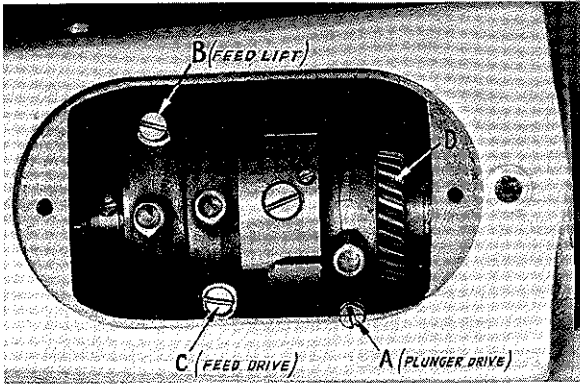

Fig. 1
Access to the connecting rod adjusting screws is through the opening in the top of the arm (Fig. 1). Remove screws and arm cover plate. Tighten screw (A) in plunger drive connecting rod until machine begins to bind while handwheel is being turned in the operating direction, which is away from the operator. Then loosen screw until machine turns freely. Repeat procedure for feed lift connecting rod and feed drive connecting rod, screws B and C respectively. Replace the cover plate and screws.
You will note that the left hand penetration of needle is into the lining and at this time the lower plunger does not raise high enough to meet the needle. Therefore, the timing of the needle and plunger can only be accomplished on right hand penetration of needle. You will also note that the movement of needle baris from side to side on every other penetration of the needle, which is necessary in joining the lining to body of garment. In case the plunger itself gets out of time, it may be retimed through the plunger pinion (D, Fig. 1) on the main shaft. The plunger is set correctly if the LOWEST point to which the plunger descends is the same on two consecutive revolutions of the handwheel.